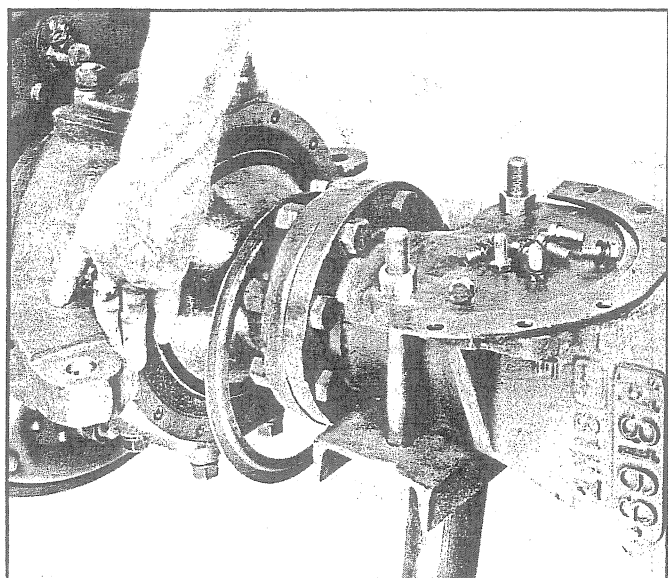

Fig. 37 - Positioning Seal and Spring Prior to Installation
- c. Insert spring into groove around dust seal and carefully position seal as shown in Fig. 37.